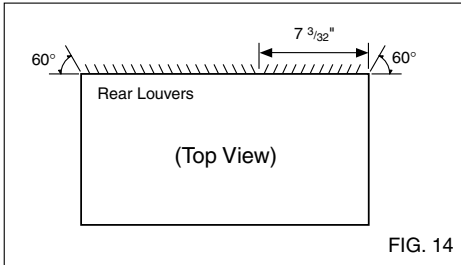

FIG. 14
- 1** Redirect the louvers at the back of the wall sleeve to 60° angle as shown in the FIG 14. The use of pliers is recommended.